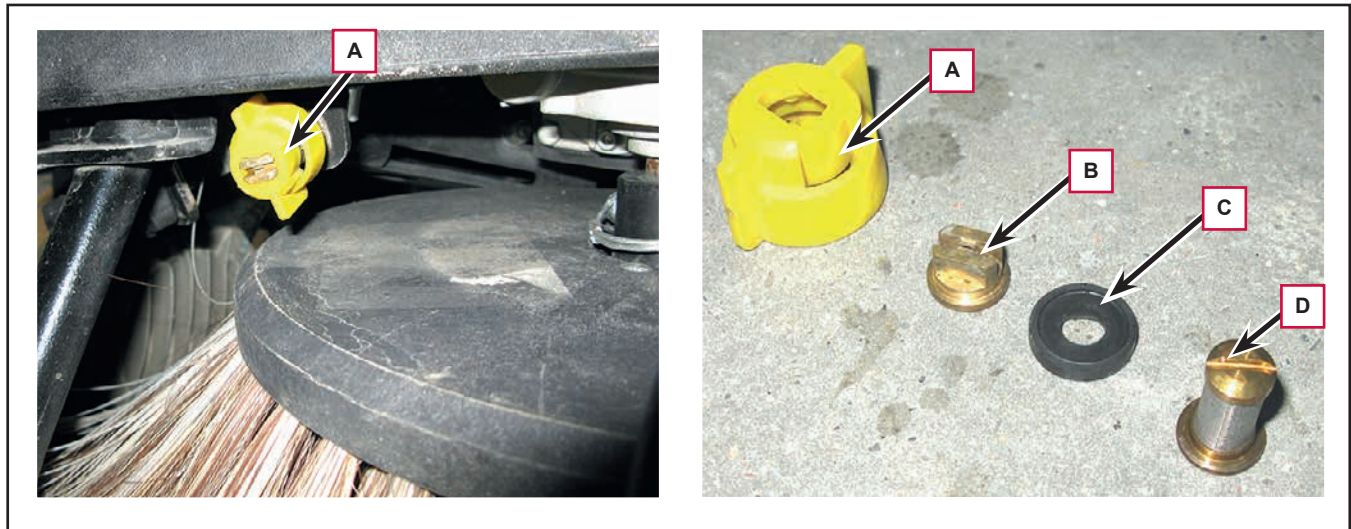

Figure 4
3. On the front side of the side brooms, remove the ring nuts (A, Figure 4) (bayonet connection).
4. Remove and clean the nozzles (B), the gaskets (C) and the filters (D) with compressed air. Remove any calcium deposit. If necessary, replace the filters (D).